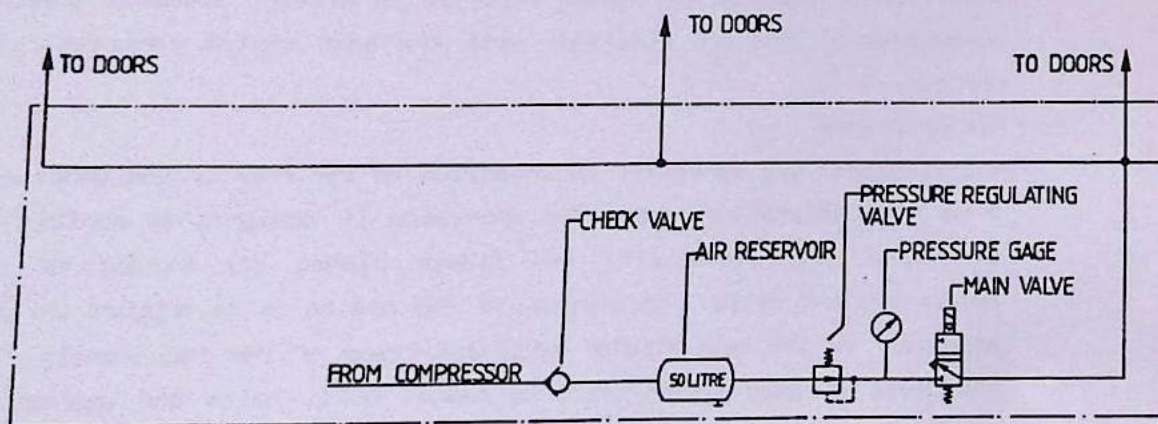

Fig. 1 Compressed Air System - Schematic
1. Description and OperationA. Description (Fig. 1)